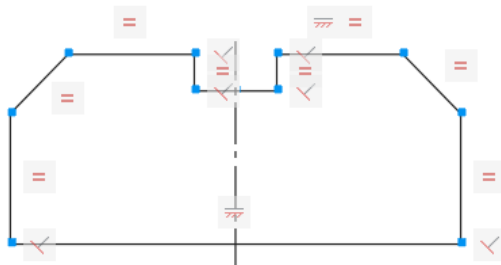

Figure 1-10 Sketch after drawing the centerline
8. Draw a vertical centerline that passes through the midpoint of the horizontal line at the bottom, as shown in Figure 1-10.